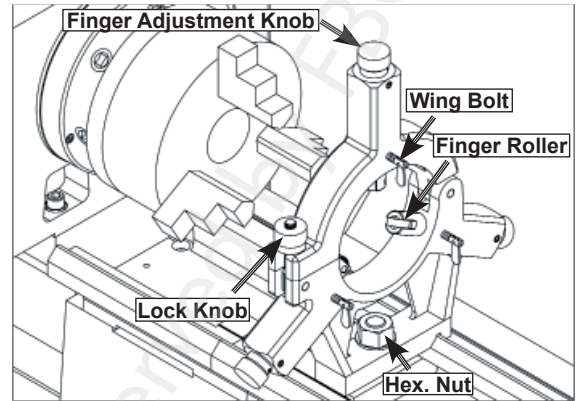

Fig. 37 Steady rest components
3. Position the steady rest where required to properly support the workpiece, then tighten the hex nut shown in figure 37 to secure it in place.